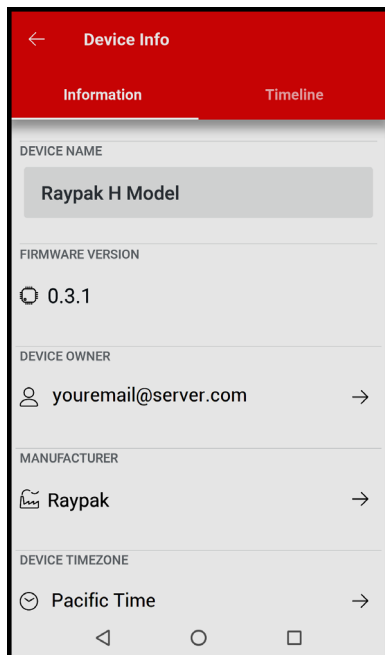

Figure 101. "Device setup naming" is not required
3. During device configuration, basic reference information about the unit will be requested, including service provider, site location, Pool and Spa size. See Figure 101.